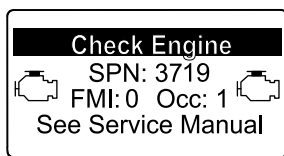

Figura 79
- Engine warning (Avertisment motor) SPN 3719, FMI 0 (Figura 79)